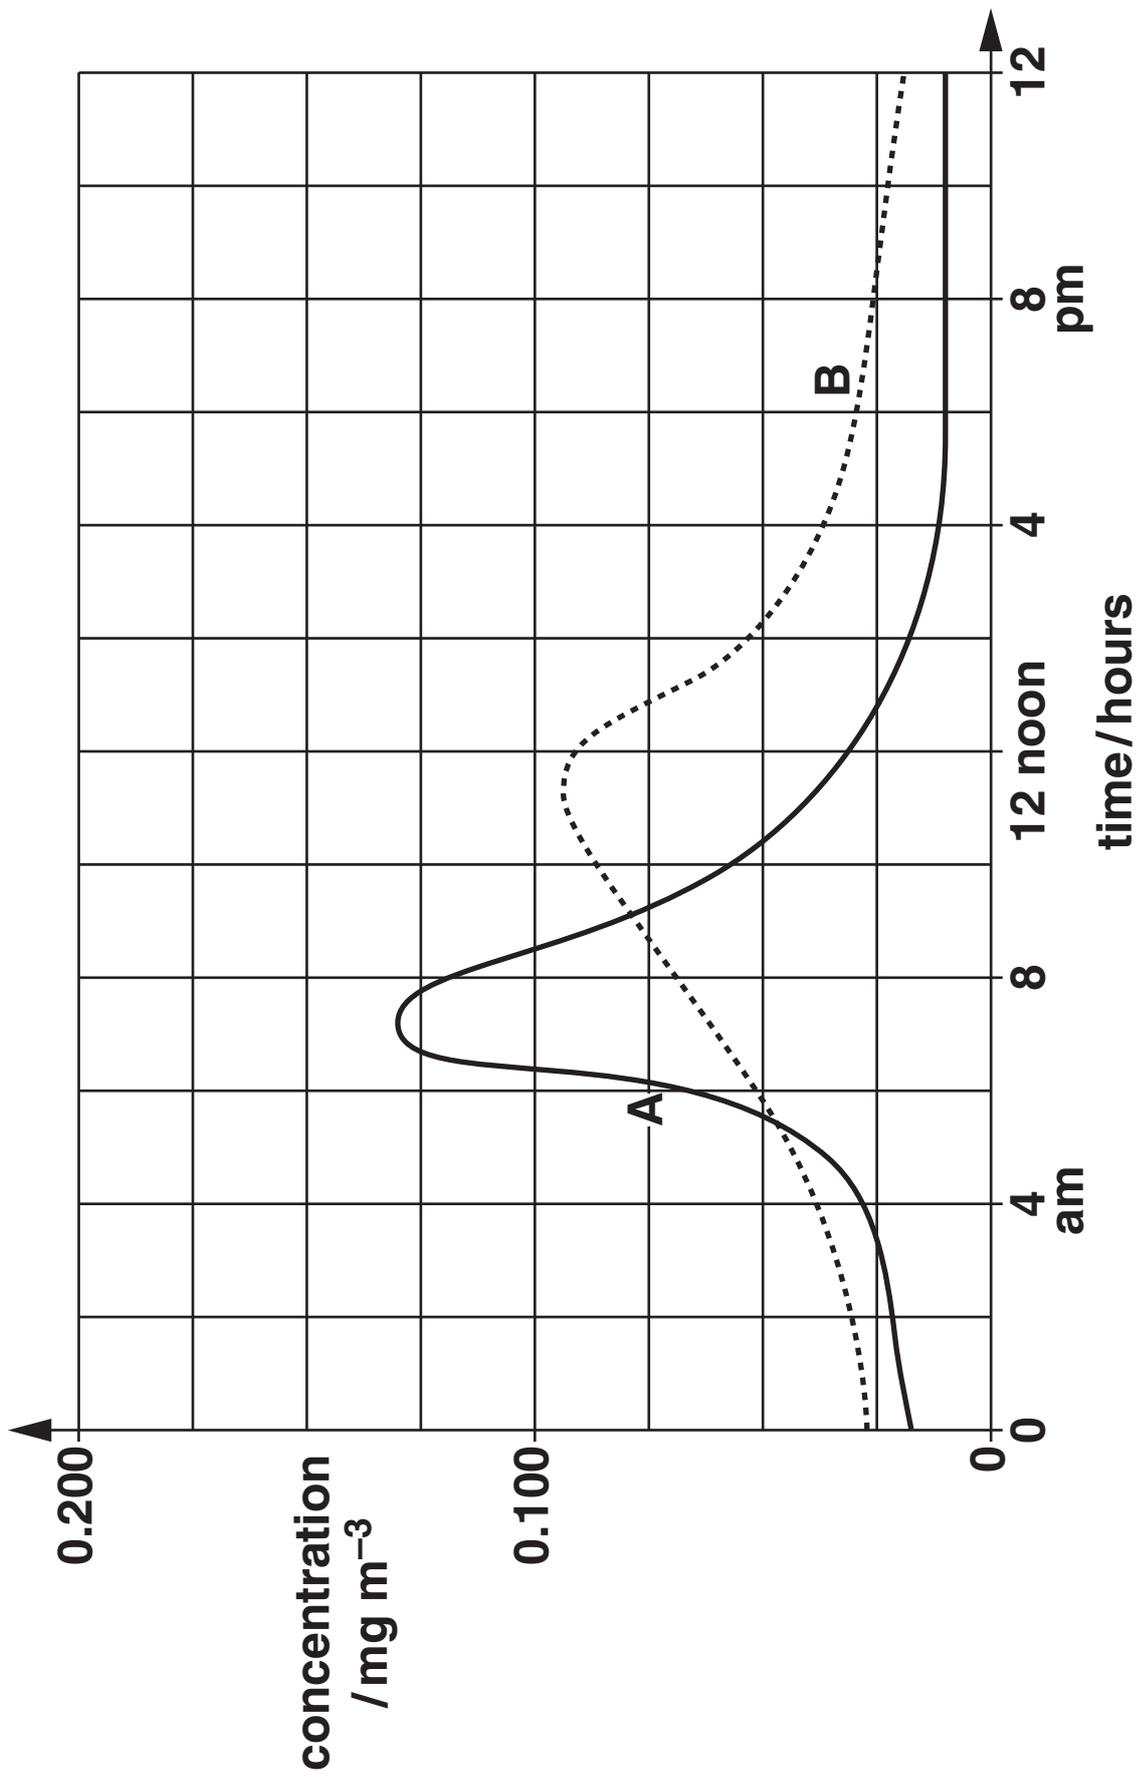

Fig. 2.2
- (b) The graph, Fig. 2.2 opposite, was obtained by students concerned about atmospheric pollution. It shows the concentration of various compounds in the air during the day in a city susceptible to photochemical smog.